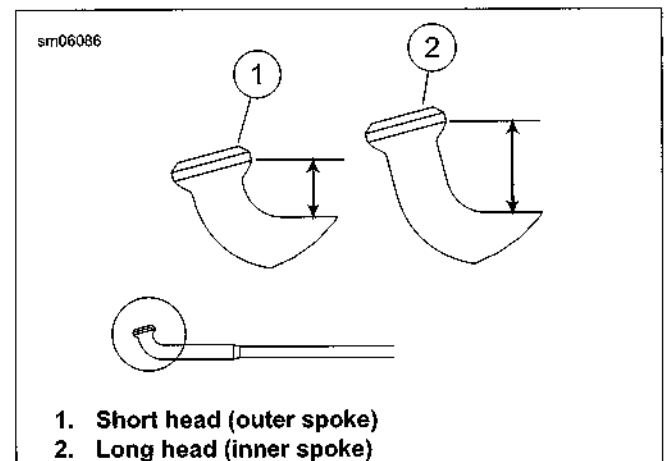
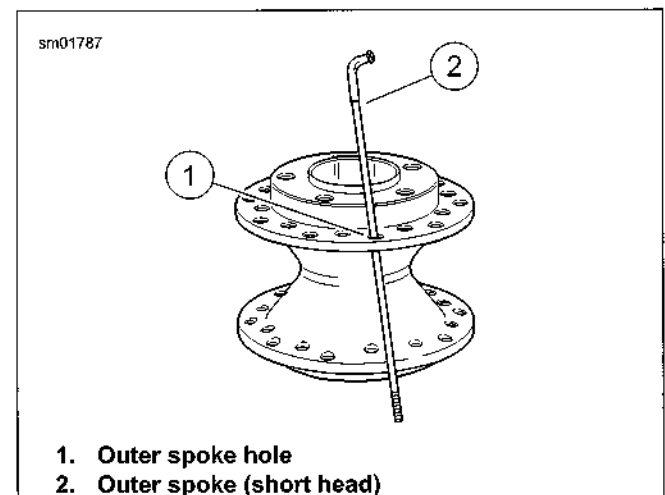

Figure 2-35. Spoke Heads
Figure 2-36. Lacing Dual Row Wheel Hub
- See Figure 2-36. This procedure is valid for 40-spoke wheels that use a straight flange, dual spoke hole circle hub regardless of rim style or diameter.
1. See Figure 2-35. Divide spokes into inner and outer groups.
- a. Inner spokes (2) have long heads.
- b. Outer spokes (1) have short heads.
- a. See Figure 2-36. Insert one outer spoke (short head) into any upper flange outer hole. Swing it counterclockwise.